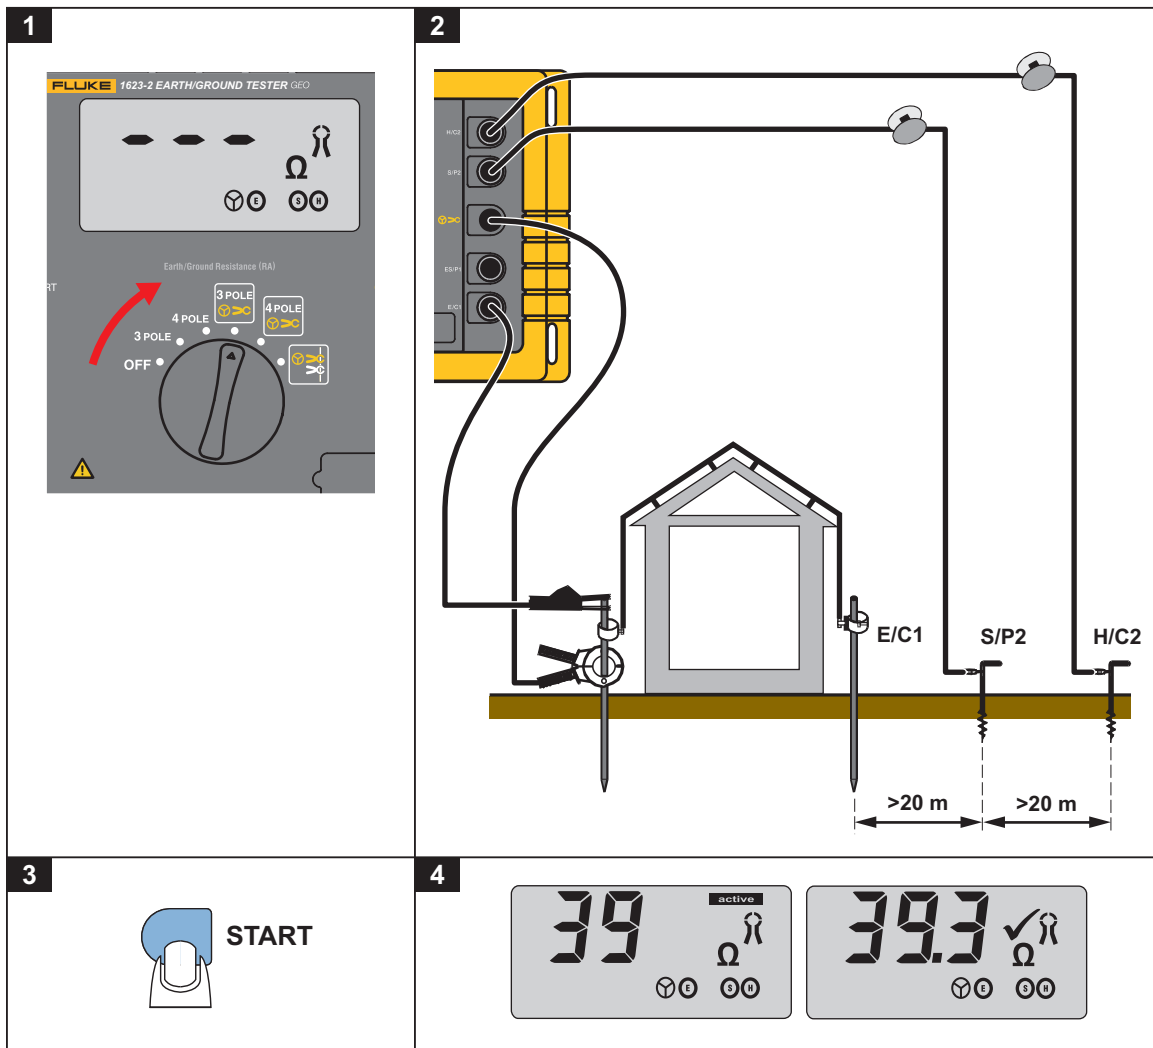

Figure 6.  $R_A$  3-Pole Selective Earth Resistance Measurement with Current Clamp
1. Select **3 POLE** . See Figure 6.